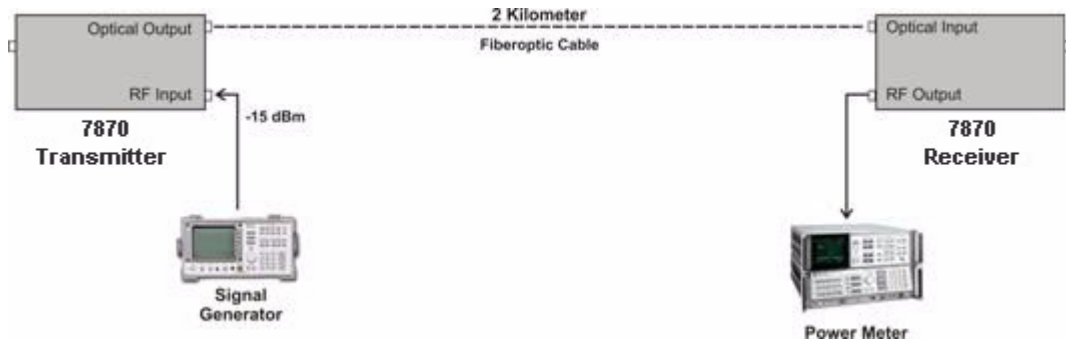

Figure 12 Fiber Optic Alignment Setup
2. Set up the system as shown in **Figure 12 Fiber Optic Alignment Setup**